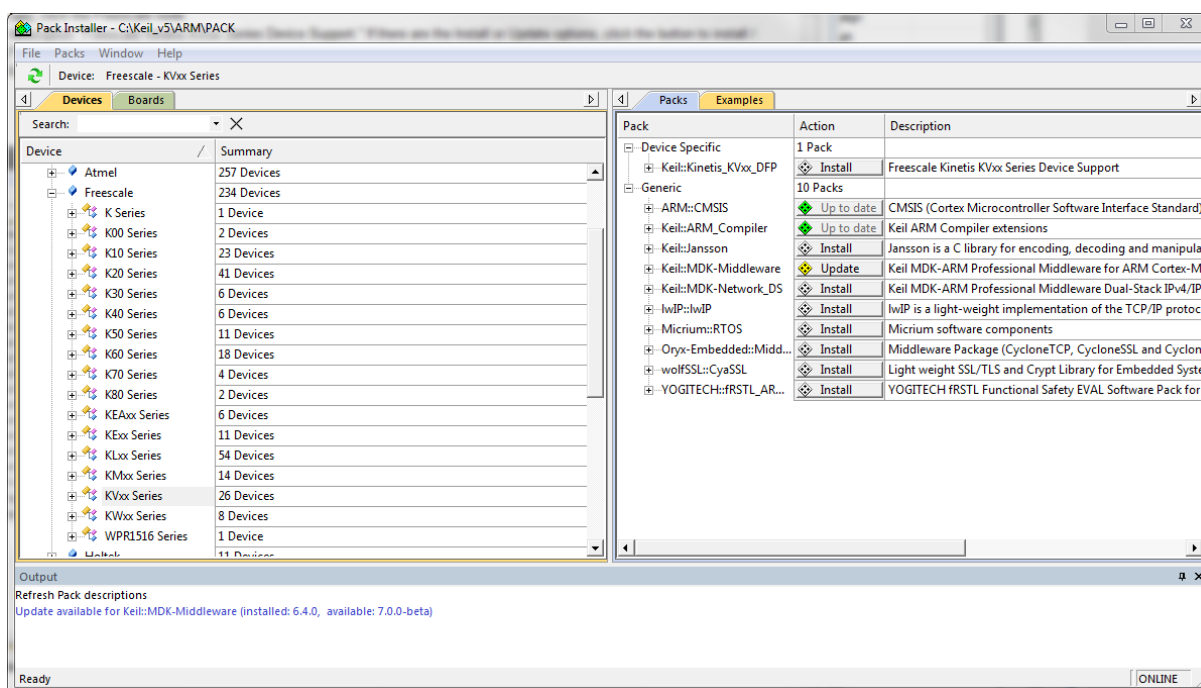

Figure 1-14. Pack Installer
6. Look for a node called "Keil::Kinetis_KVxx_DFP." If there are the Install or Update options, click the button to install/update the package. See Figure 1-14.